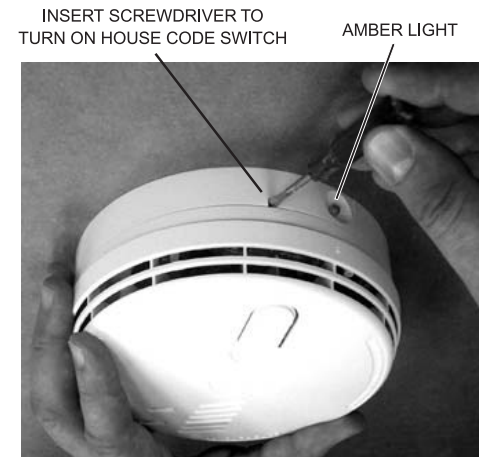

Figure 6
10. Press and hold the House Code switch on the side of any one of the **RadioLINK** Bases with a small screwdriver (as shown in Figure 6) until the amber light illuminates.